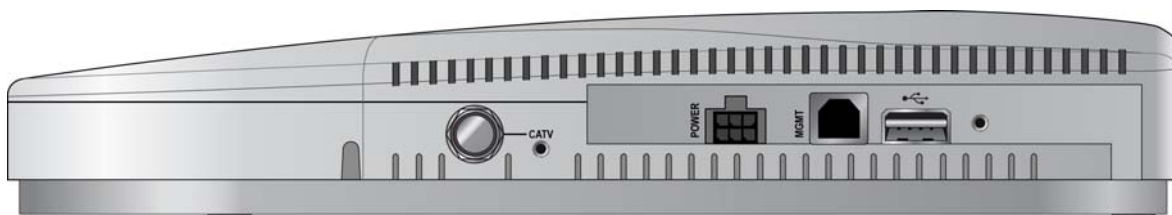

Figure 12: The POWER connector.
11. Plug the power supply cord into the POWER connector. Power is immediately supplied to the device. (Figure 12)